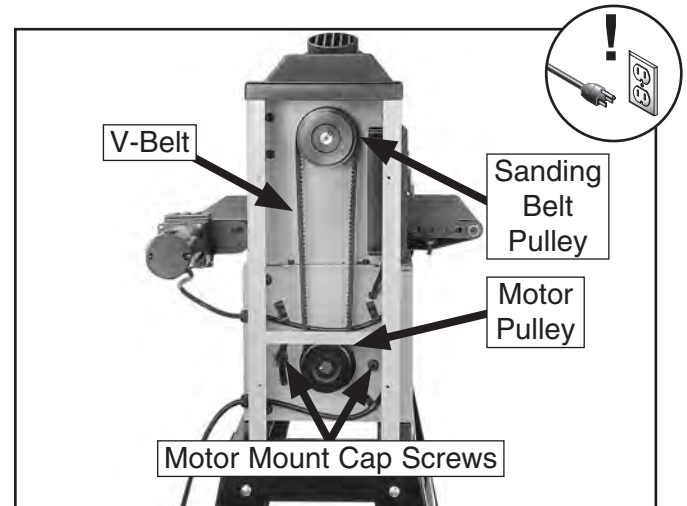

Figure 24. Belt drive system.
3. Loosen the motor mount cap screws shown in **Figure 24**, and lift motor pulley to de-tension belt.